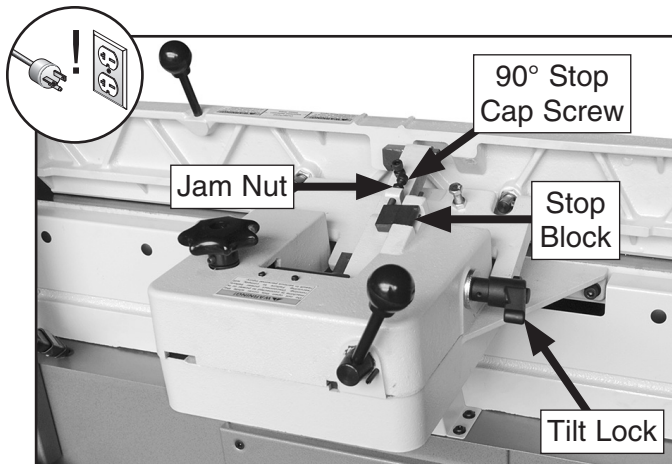

Figure 61. Fence set to 90°.
- Loosen fence tilt lock, rotate stop block down, and position fence approximately 90° onto stop cap screw (see **Figure 61**).
- Loosen jam nut on 90° stop cap screw and adjust cap screw until fence is exactly 90° while cap screw is resting on stop block (see **Figure 61**). Verify angle, then retighten jam nut.